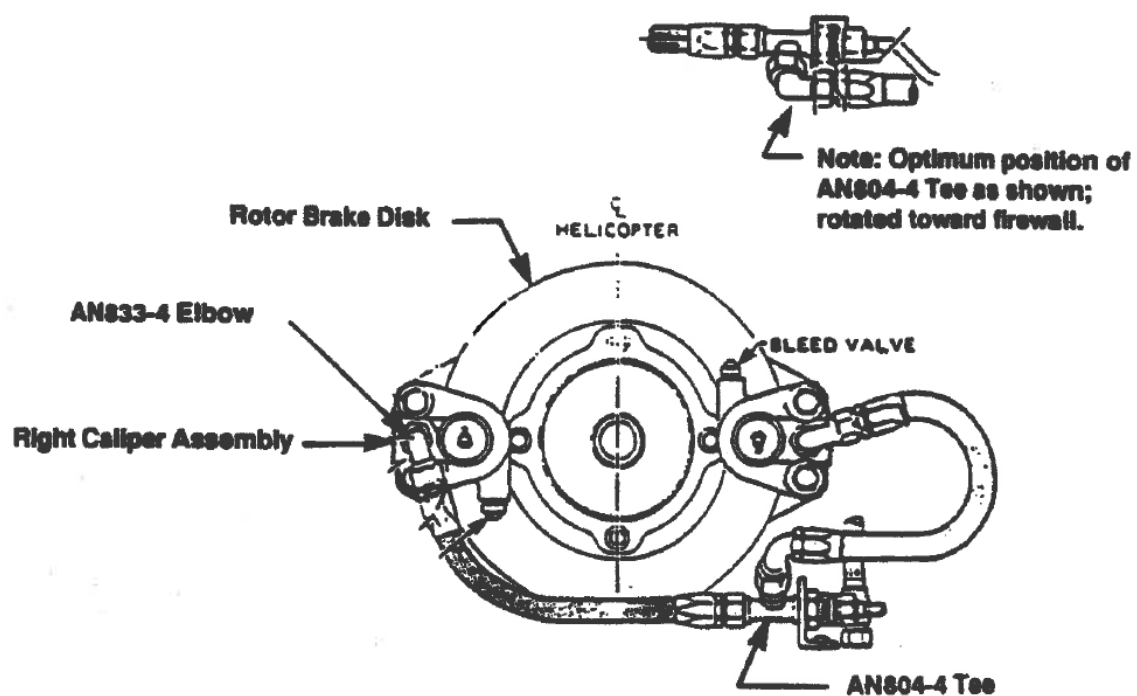
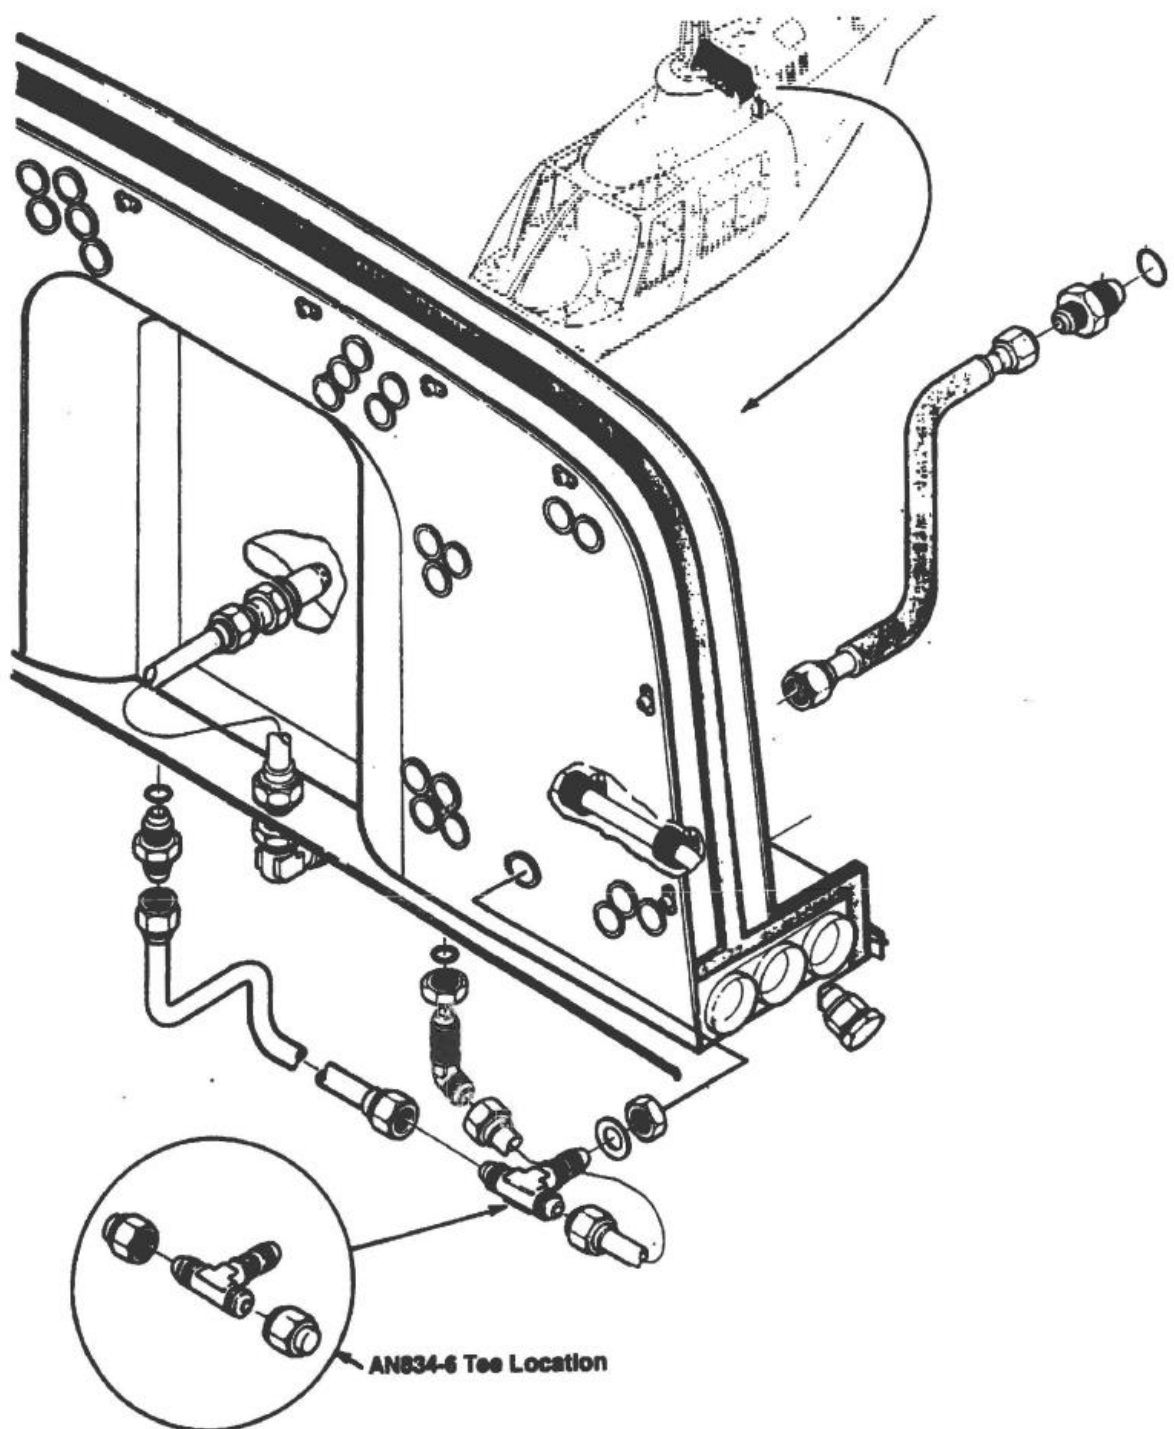

FIGURE 3: View Looking Aft at Rotor Brake
FIGURE 4
- a. Certain items must have their positions adjusted to allow clearance of the caliper assemblies upon reinstallation. Refer to Figures 3 and 4. Figure 3 shows the optimum position of the AN804-4 Tee. Verify that the tee is in this position, or loosen it just enough to allow slight rotation without permitting air to enter the hydraulic system at this fitting. If the aircraft does not have a particle separator installed, proceed to Step b at this point. Figure 4 shows the AN834-6 Tee which connects the compressor bleed air line to 206-061-222-1 Tube Assembly across the firewall to allow this fitting to be installed in its most forward position. Reconnect the lines.